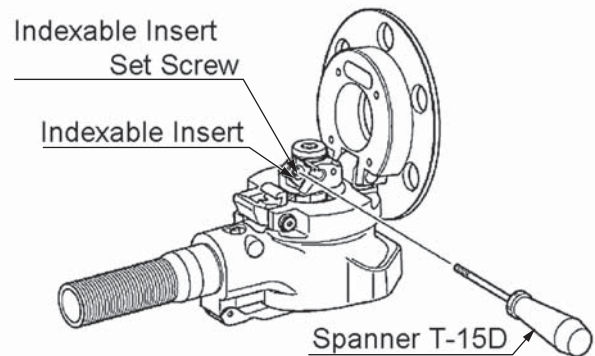

Fig.7
- b. Loosen the Indexable Insert Set Screw with the accessory Spanner T-15D and remove the Indexable Insert. (Fig.7)